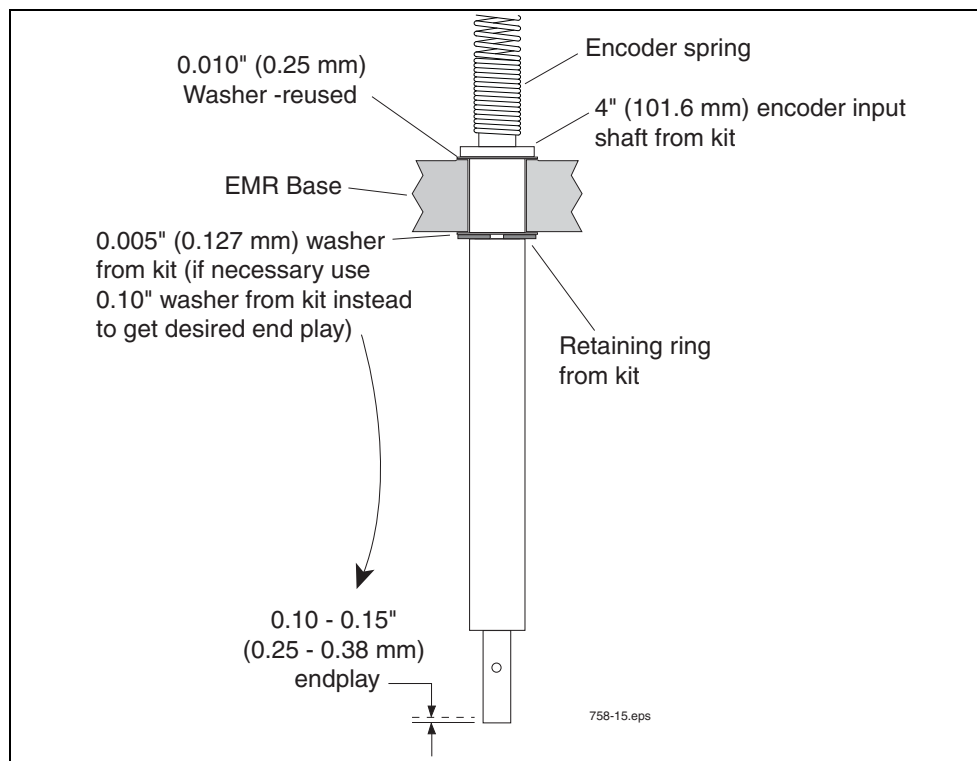

Figure 16. Assembling Neptune Adapter Shaft Group To Display Head
- Assemble the new shaft, the 0.10" washer you removed from the Display Head shaft in the previous step, the 0.005" washer, and the retaining ring in the Display Head base as shown in Figure 16. If the 0.10 - 0.015" end play is exceeded, remove the retaining ring and replace the 0.005" washer with the 0.010" washer.